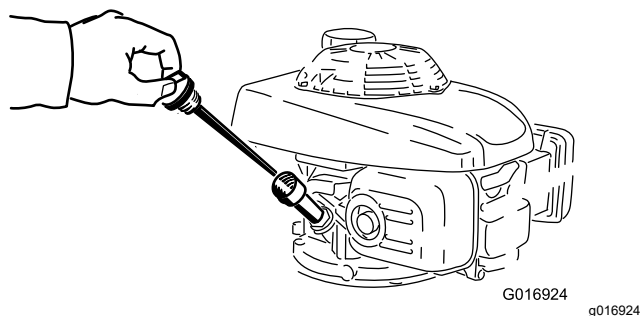

Figure 31
3. Retirez la jauge (Figure 31).